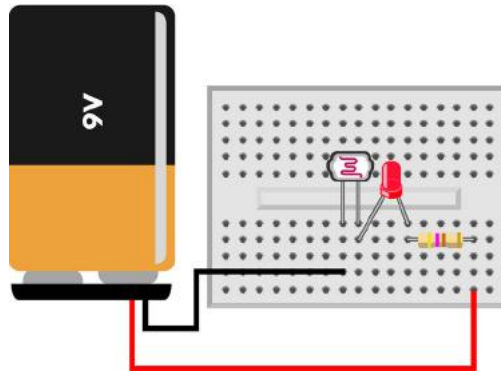

Figure 1-5. *Circuit diagram for photoresistor project*
1. Orient your breadboard so that it is wider than it is tall, as shown in Figure 1-5.
LED lead should occupy its own column for now. Refer back to Figure 1-5 to see how they should be arranged.
7. Double-check the steps and if everything looks like Figure 1-5, connect the 9 V battery.